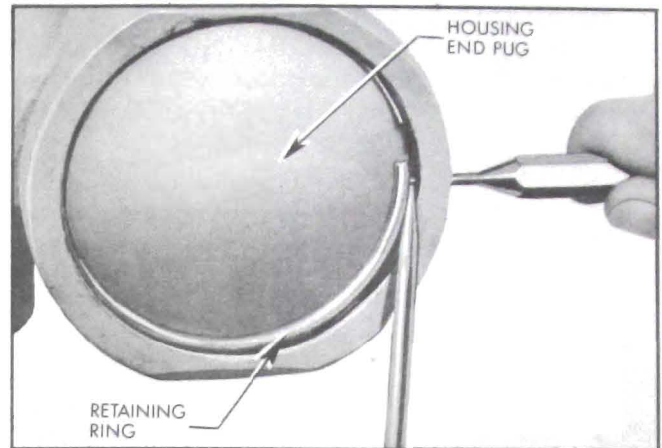

Figure 8-56—Removing Housing End Plug Retaining Plug
3. Rotate housing end plug retainer ring so that one end of ring is over hole in gear housing. Spring one end of ring with punch to allow screw driver to be inserted to lift ring out. See Figure 8-56.